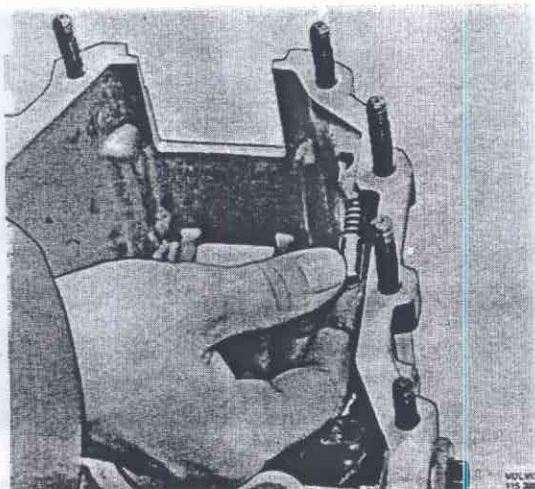

Fig. 43-106. Placing lock pin
7. Turn the gearbox. Grease the lock pins for 1st-2nd and reverse gears and place them and the springs in the housing, Fig. 43-106.